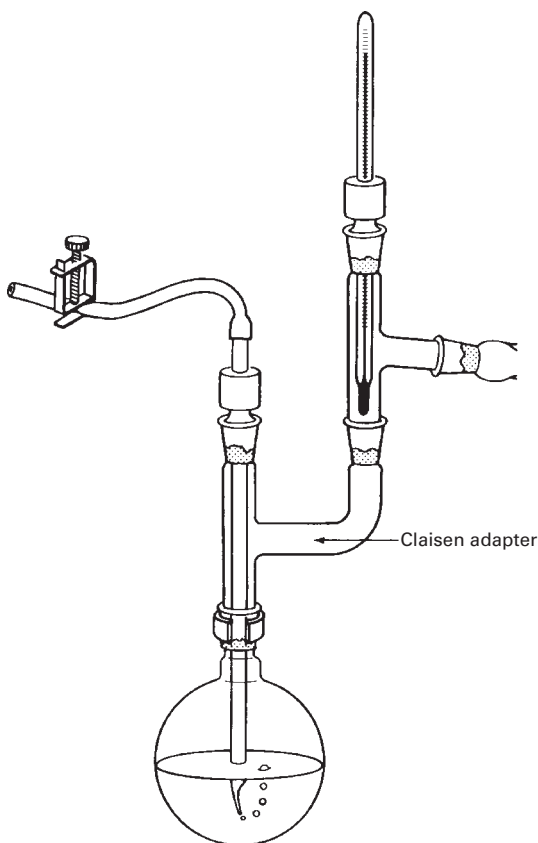
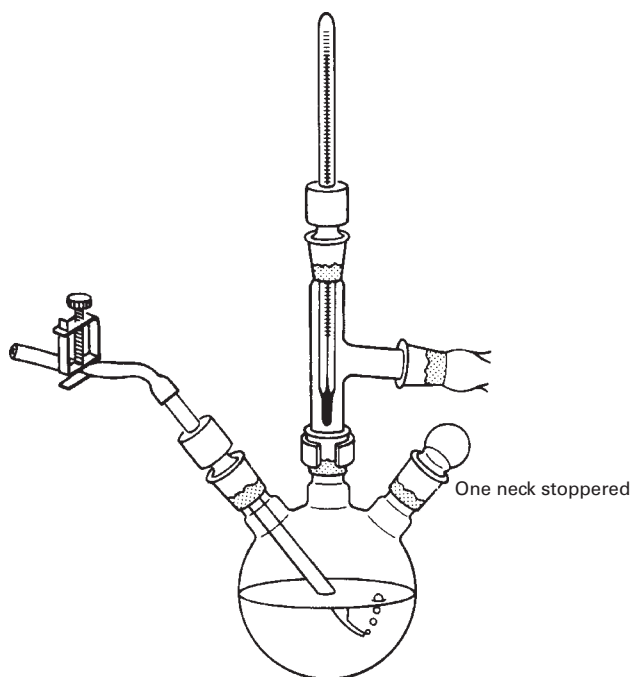

FIGURE 19.8 A Claisen adapter. You can vacuum distill and take temperatures, too.
FIGURE 19.9 Multipurpose setup with a three-neck flask.
9. A **Claisen adapter** in the distilling flask lets you take temperature readings and can help stop your compound from splashing over into the distillation receiver (Fig. 19.8). On a microscale, though, the extra length of the Claisen adapter could hold up a lot of your product. Check with your instructor. You could also use a **three-neck flask** (Fig. 19.9). Think! And, of course, use some glassware too.